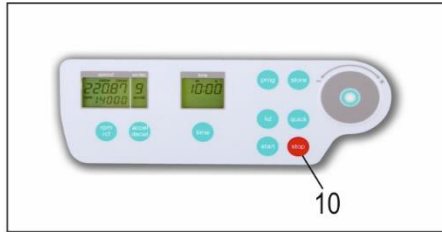

Figure 31
With the "stop" key (10), the run time can be interrupted, at any time, (see Figure 31). After pressing the key, the centrifuge decelerates with the respective pre-selected intensity, down to a standstill.